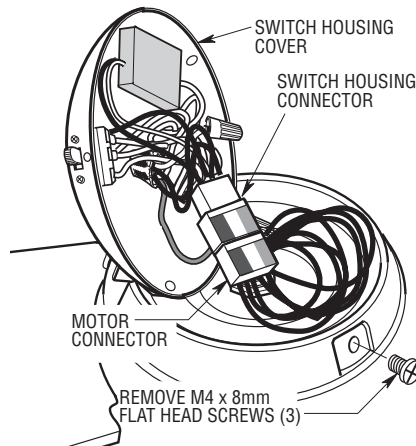

Figure 2
- 5. Remove the three M4 x 8mm flat head screws from the switch housing adapter plate (Figure 2). Retain the screws for future installation.
- 6. Engage the connector of the switch housing assembly with the motor connector (Figure 2). The two connectors are keyed and color-coded and must be mated correctly (color-to-color) before they can be engaged. Make sure the connector latch closes properly.